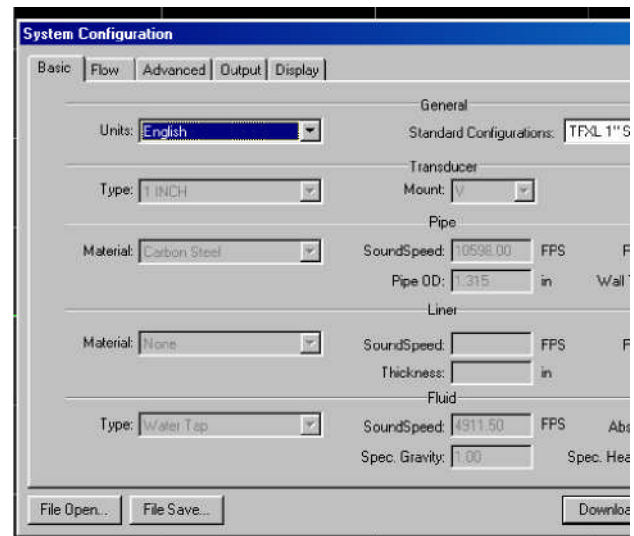

Figure 3.3
Click on the button labeled **Configuration** for updating flow range, liquid, pipe and I/O operating information. The first screen that appears after clicking the **Configuration** button is the **BASIC** tab. See **Figure 3.3**.
1. BASIC TAB—See **Figure 3.3**